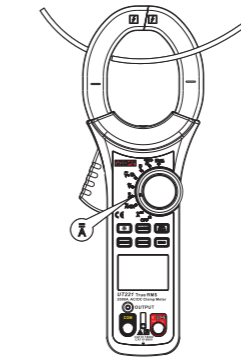

Figure 9
7. DC current measurement (A) (See Figure 9)